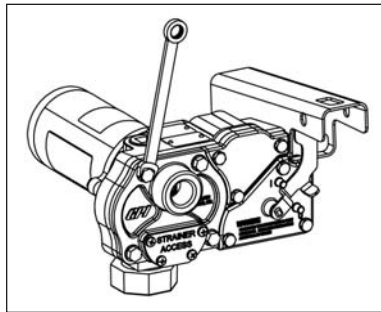

Figure 6
- Remove the gear coverplate. (Figure 6)